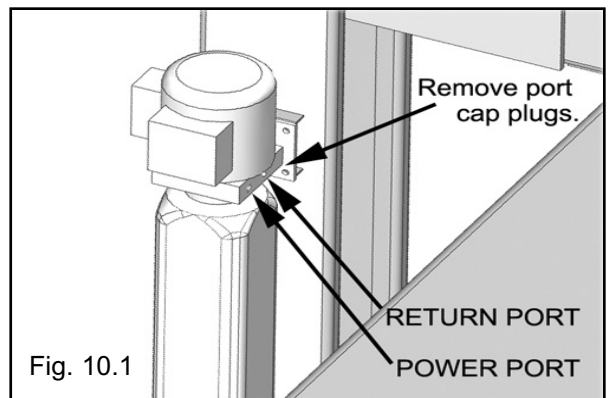

Fig. 10.1
1. Install the two 90-degree hydraulic fittings to the POWER PORT and RETURN PORT of the power unit and connect the hoses as described below. It will be necessary to remove the shipping plugs from both ports prior to installing the fittings. (See Fig. 10.1 - 10.2)